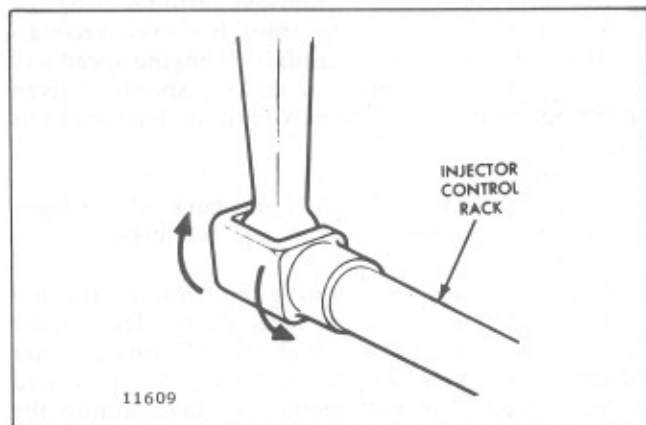
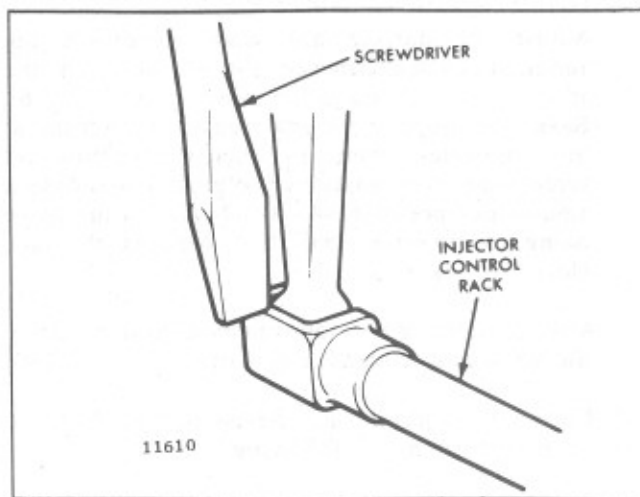

Fig. 4 - Checking Rotating Movement of Injector Control Rack
Fig. 5 - Checking Injector Control Rack "Spring"
6. To be sure of the proper rack adjustment, hold the speed control lever in the maximum speed position and press down on the injector rack with a screw driver or finger tip and note the "rotating" movement of the injector control rack (Fig. 4) when the speed control lever is in the maximum speed position. Hold the speed control lever in the maximum speed position and, using a screw driver, press downward on the injector control rack. The rack should tilt downward (Fig. 5) and when the pressure of the screw driver is